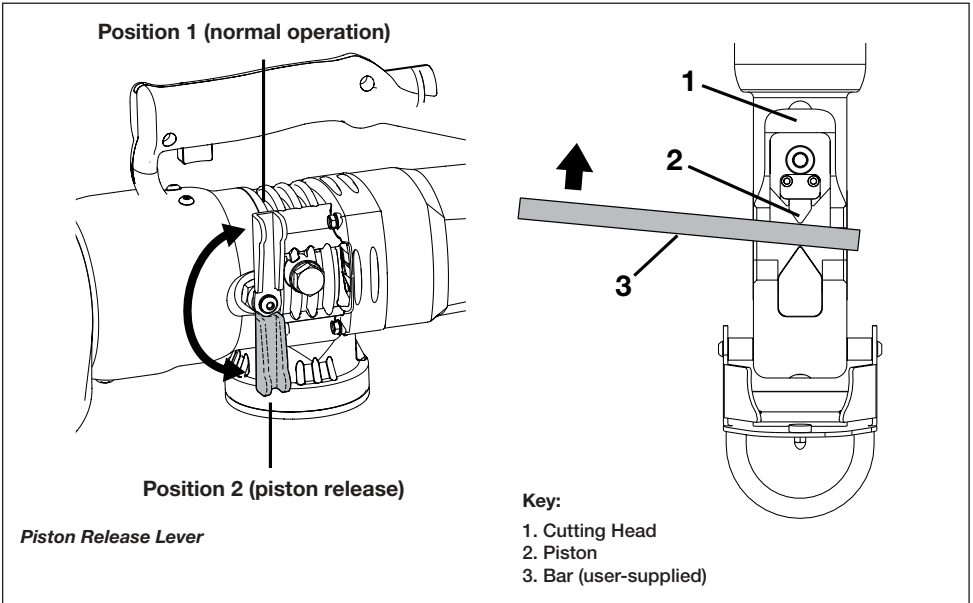

Figure 15, Piston Manual Retract Procedure
3. Move the piston release lever counterclockwise to manually release the piston. See Figure 15, position 2.
4. Using a rigid piece of steel bar, manually push the piston inside the cutter until it is returned to the “home” position. See Figure 15, item 3. This should dislodge any dirt or other material that had prevented the piston from returning during normal operation.
5. Move the piston release lever fully clockwise to return the cutter to normal operation. See Figure 15, position 1.
8. Clean the exposed portion of the piston. Remove any debris, chips or dirt from this area. See Figure 15, item 2.